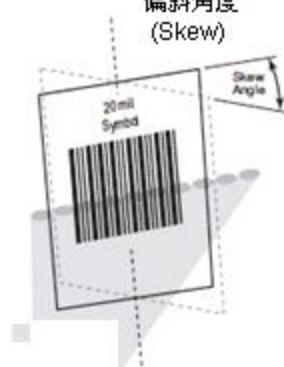

Fig. 1-15
- ✧ Skew: $\pm 55^\circ$, 0° Roll and 0° Pitch (Fig. 1-15)